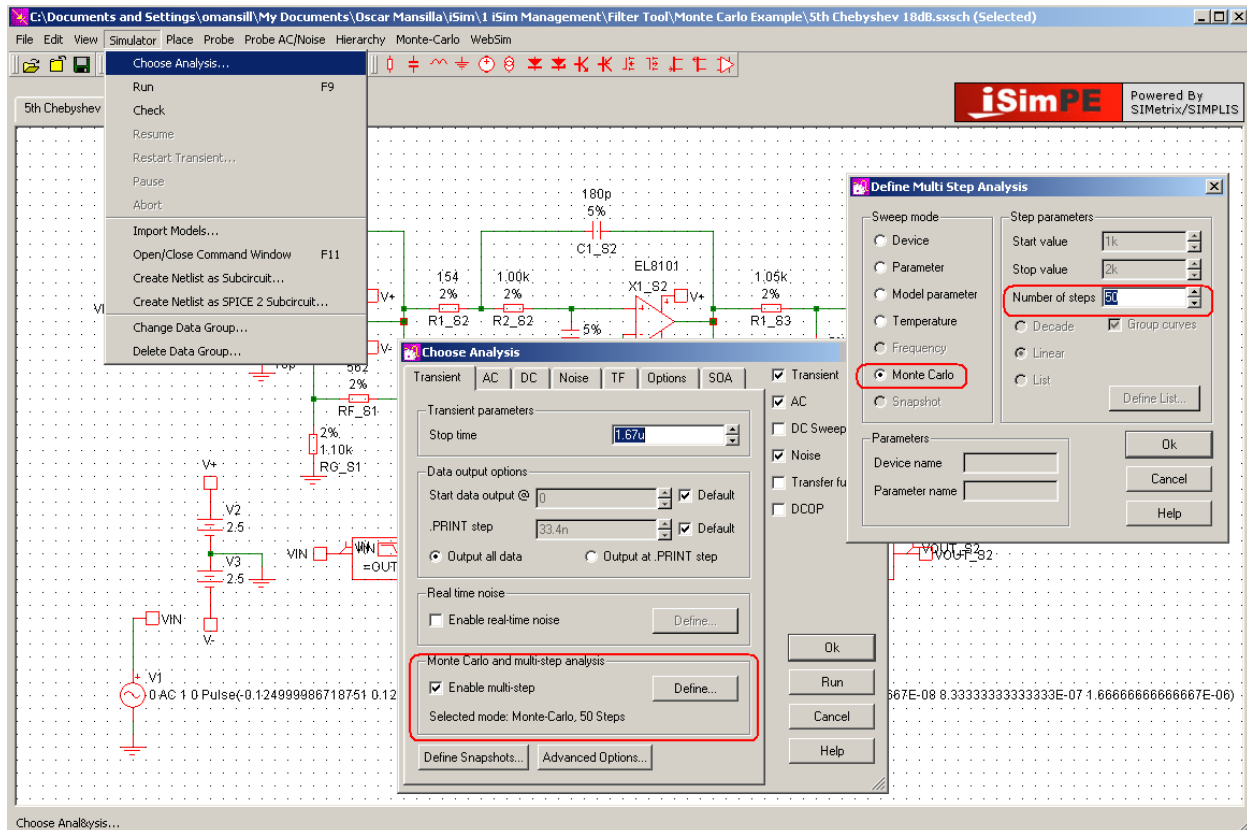

FIGURE 42. ENABLING MONTE CARLO ANALYSIS
5. In the "Sweep Mode" section you will see Monte Carlo is selected and in the "Step Parameters" section enter the number of steps to simulate. In this example we have set it to 50 steps (Figure 42).
Looking at the Figure 43, you can see the envelope of the Monte Carlo simulation with the component tolerances specified as in Figure 42. A sense of the impact of the component variation can be studied on key design parameters such as the overshoot, settling time, and delay of the filter. Similarly, AC plots can be studied for pass band ripple and cut off frequency variation due to the component tolerance. If these results indicate too much performance spread, a tighter tolerance on the R's and C's can be selected and the Monte Carlo analysis rerun. The op amp simulation models do not currently support parameter variation through Monte Carlo techniques. However, the SmartFilter design tool attempts to design in enough performance margin to each stage that the amplifier BW variations should be a minor effect.